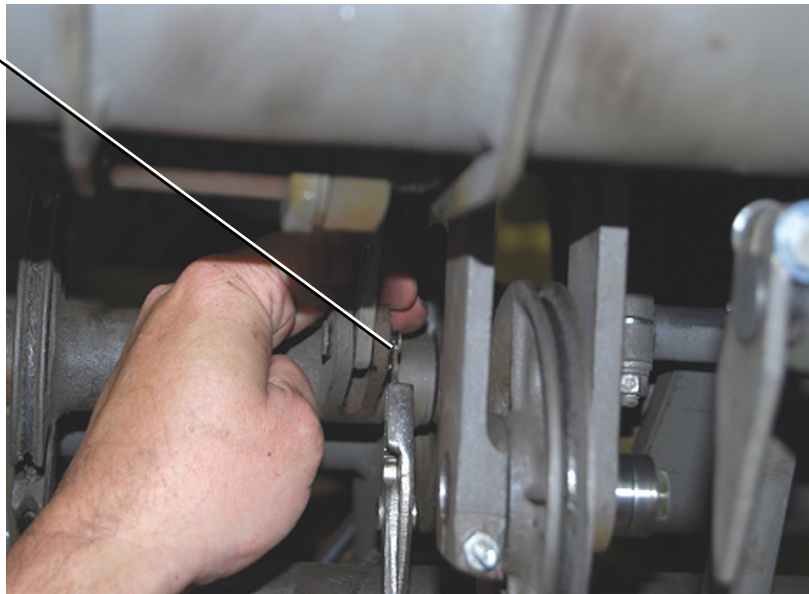

Figure 9
6. Remove the “X” washer and “X” washer pin that connects the scissor link to the upper scissor control pulley. Refer to *Figures 9 and 10*.